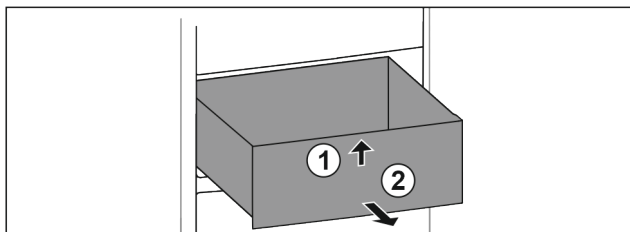

Fig. 71
- ▶ Lift up drawer at the front. Fig. 71 (1)
- ▶ Remove drawer to the front. Fig. 71 (2)